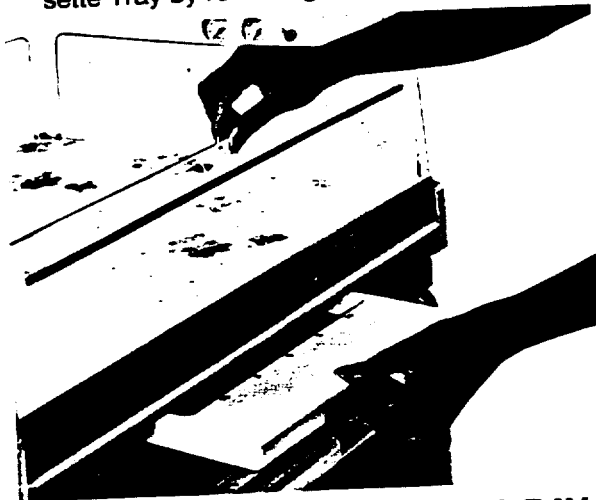

FIGURE 4.10 CHECKING THE X-RAY TRAY
6. CHECK THE OPERATION OF THE X-RAY CASSETTE TRAY (ACCESSORY) (Figure 4.10) by pulling up the middle of a Side Panel and pulling the X-ray Cassette Tray out from under the Bassinet. Replace the X-ray Cassette Tray by reversing the procedure.